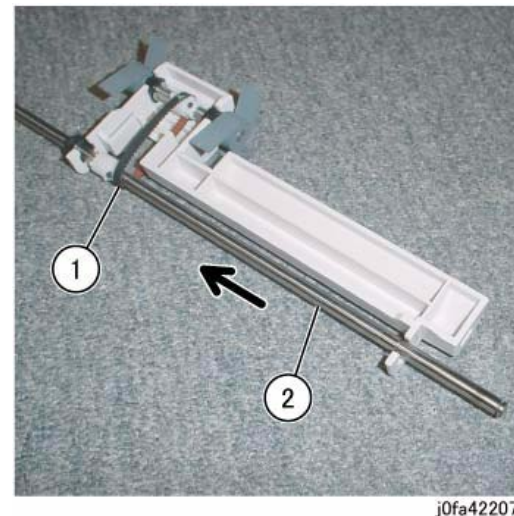

Figure 7 Removing Shaft Assembly
11. Remove the Shaft Assembly (Figure 7):